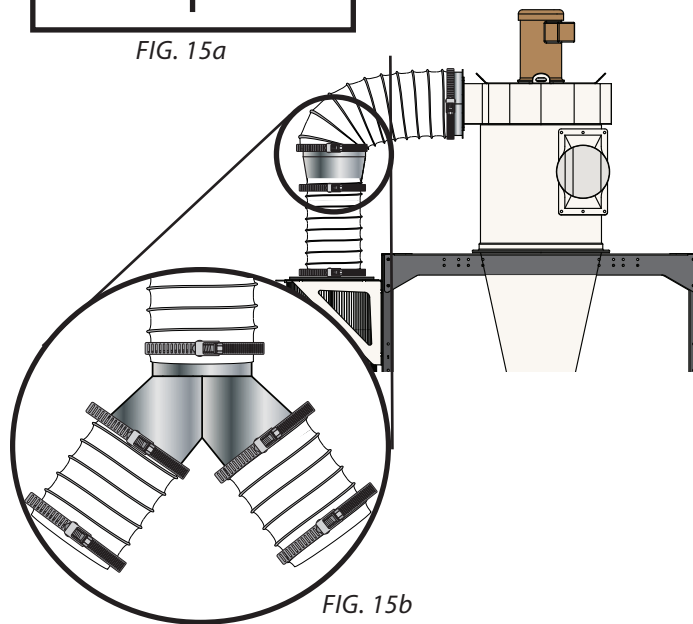

FIG. 15b
Attach the 10" Diameter Flex Hose to the 12x10x10" Pants Wye (I), and secure it in place with the Clamp Band (H). Repeat the process to attach the opposite end of the Hose (J) onto each opening on the Dual Filter Plate (K) [FIG. 15b].